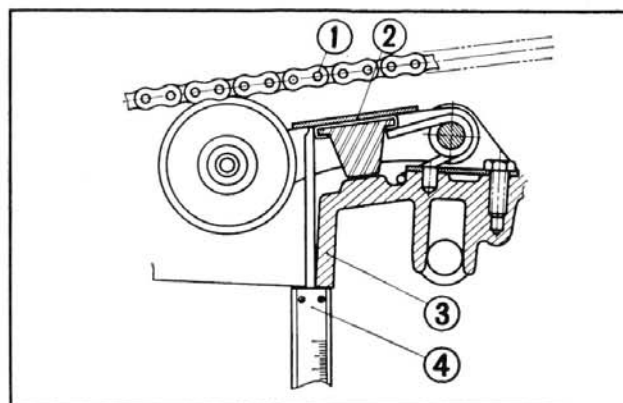

Fig. 3-90 ① Primary chain ③ Lower crankcase
② Primary chain tensioner ④ Vernier caliper
- c. Measure the distance between the primary chain tensioner bracket and the oil pan mounting flange (**Fig. 3-90**) with the vernier caliper.